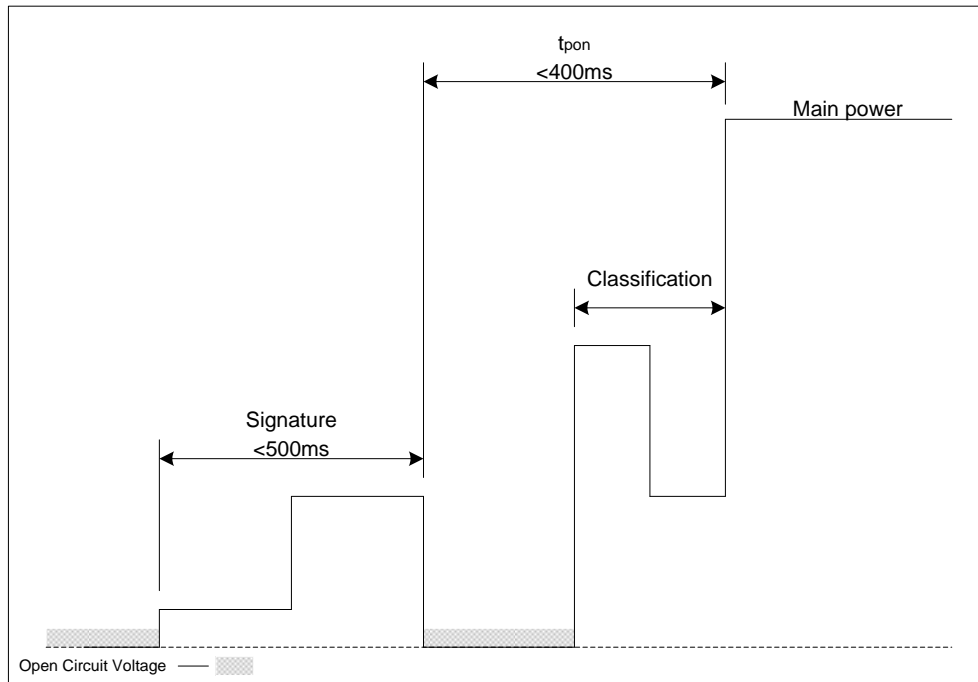
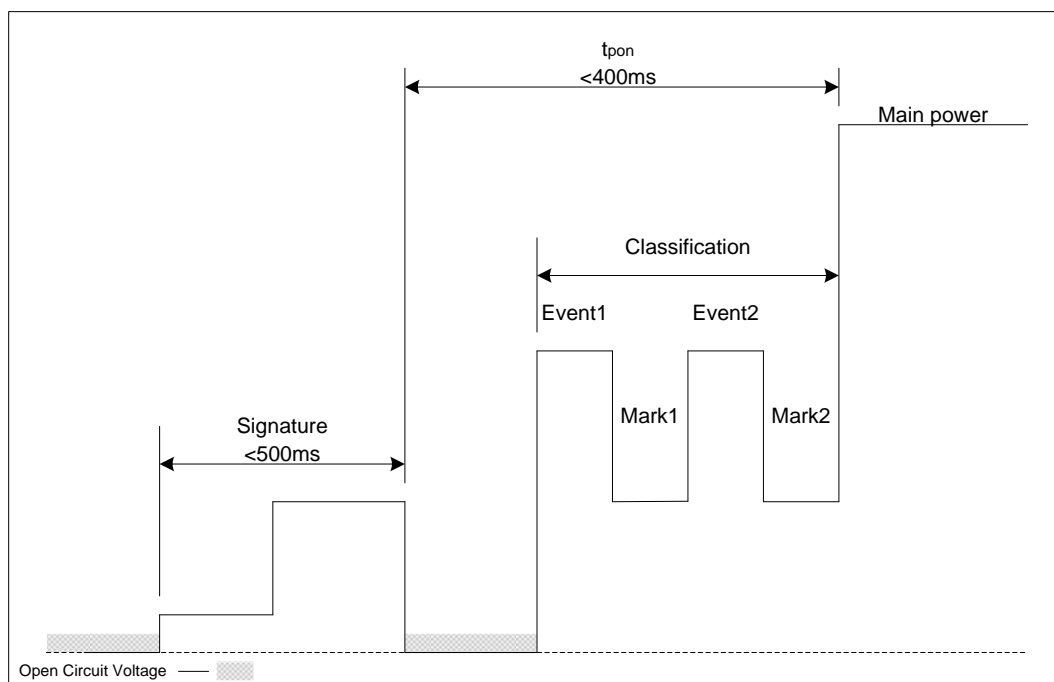

Figure 5: Signature, Class and Turn-On Timing - Type 1 PD
Figure 6: Signature, Class and Turn-On Timing - Type 2 PD
The Ag6100 will automatically perform the Signature and Classification, Figure 5 shows the timing sequence for a Type 1 Powered Device (PD) and Figure 6 shows the timing sequence for a Type 2 PD.